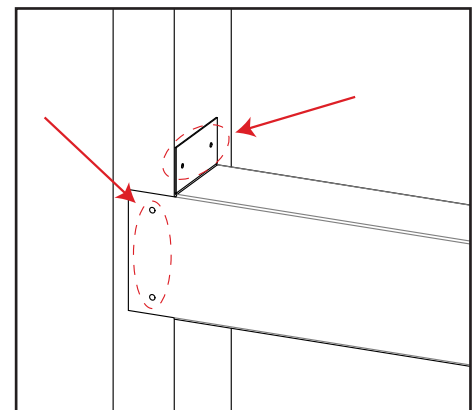

Figure 22: Steel Stud Installation
- Attach the steel stud to the framing studs using the holes shown in Figure 22.